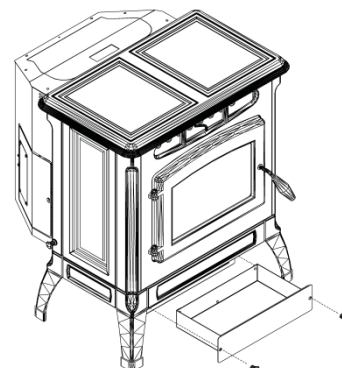

FIGURE 18
- Periodically remove and empty ash bin (see Figure 18) by unscrewing the two knobs on the front of it and pulling it straight out. Dispose of ashes properly. (See "**ASH REMOVAL**" above)